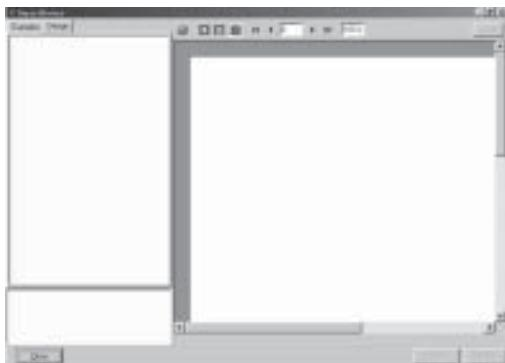

Fig. 8-21 Select the Page Key-Design
2. Design the Report: Select the page key **Design** and the listing table is empty, if opened for the first time, as in Fig. 8-21.
Referring to Fig. 8-21, enter the **name** describing the use of the report in the position of Description and the path and name of the report in the position of FilePath or click the **quick icon** to open the dialogue block for selecting the files to be opened.